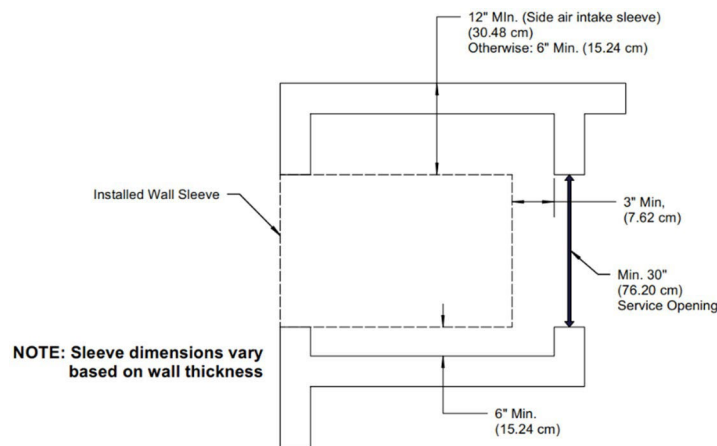

Figure 11 - Rear Installation
- Sleeve rough-in opening is 43-1/2 in. (H) [110.49 cm] x 26-3/4 in. (W) [67.94 cm].
- Minimum of 3 in. [7.62 cm] of clearance is required on all sides, except ERV fresh air (supply air) side, of the FRESH-PAK unit. See - **FIGURE 11- Rear Installation**.